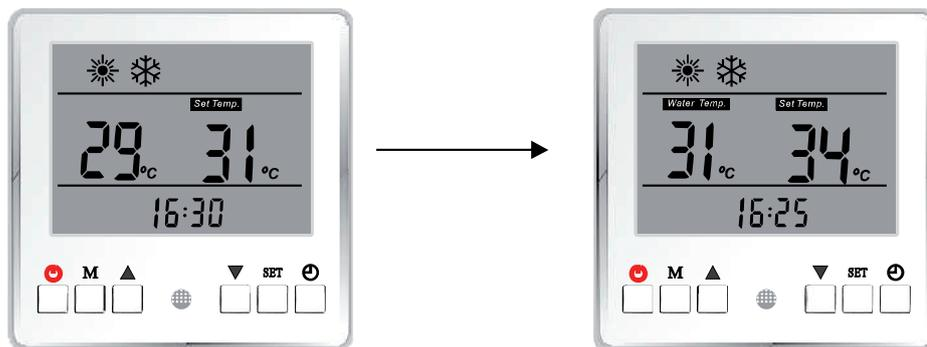

Figure 7-5 - Showing “Water Temp.”
**WARNING !!!** If the symbol “*Water Temp.*” does not appear on the display (section 7.1), press and hold the M button until it appears (Figure 7-5).